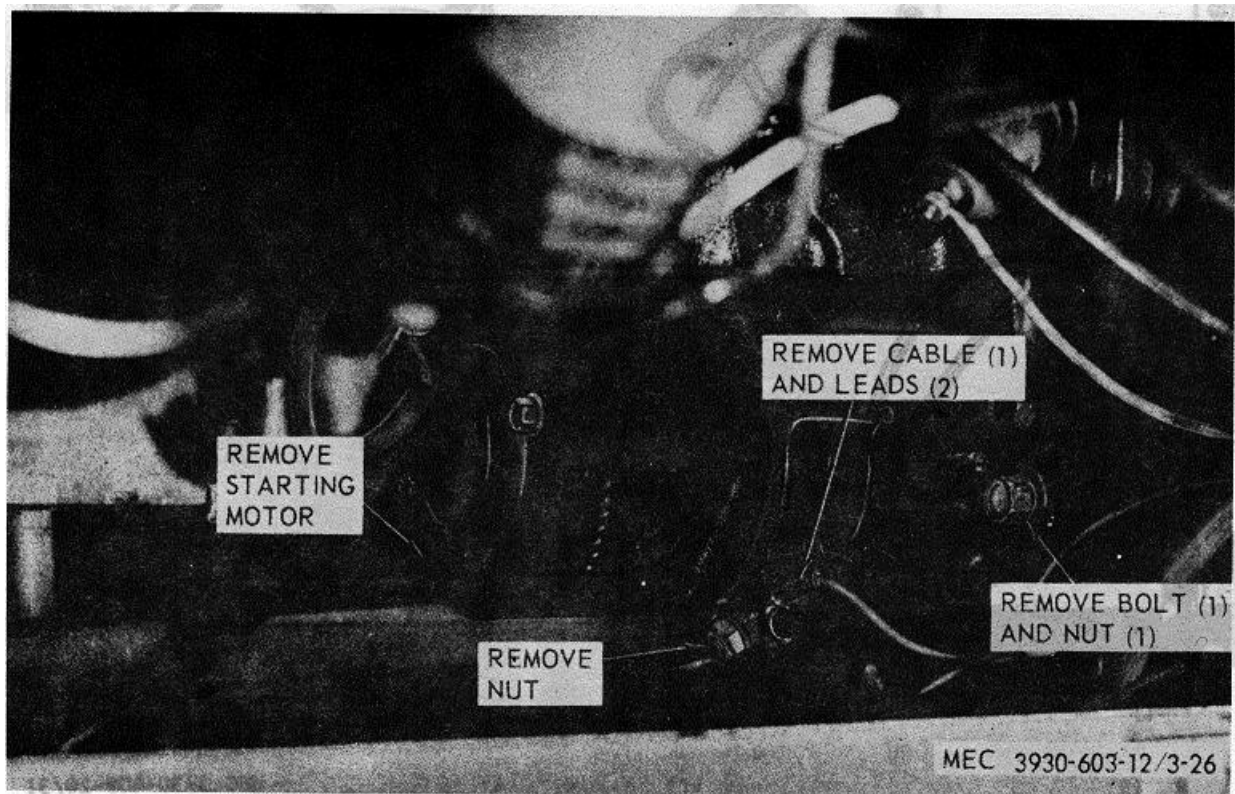

Figure 3-26. Starting motor, removal and installation.
- (1) Install starting motor as illustrated in figure 3-26.